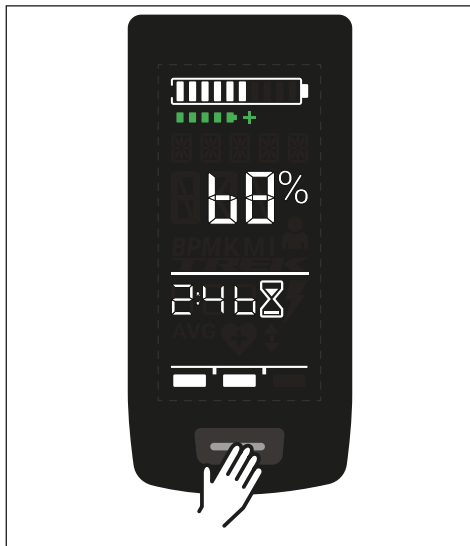

Fig. 3: Bedientaste am Display
- Switch on the drive unit by **shortly** pressing the button (see Fig. 3) on the display.
- Switch off the drive unit by **long** pressing the button (see Fig. 3) on the display.